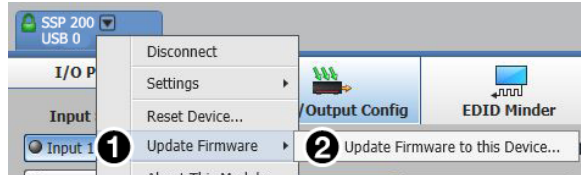

Figure 57. Update Firmware to this Device
- The Device menu drops down (see figure 57). Click **Update Firmware** (1) and then **Update Firmware to this Device...** (2).